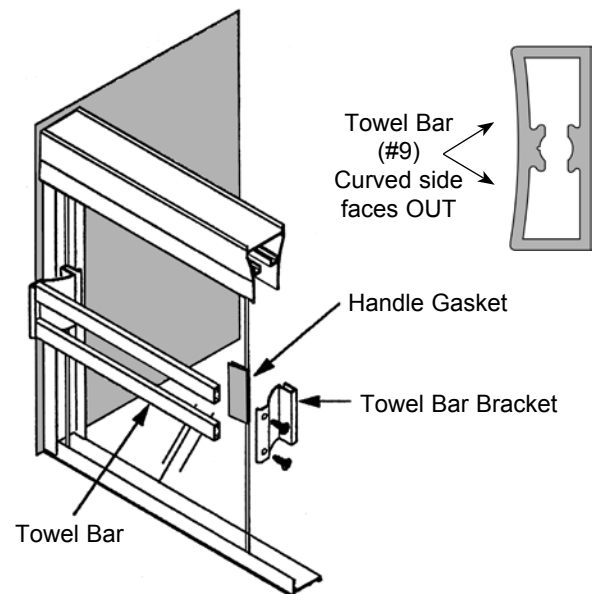

Figure 7
- D. Slide the Outside Door Panel (#5) to the Wall Jamb (#3) nearest the shower head. Wrap another Handle Gasket (#14) around the edge of the glass nearest the wall and centered on the Panel Locator (#7). Position the Towel Bar Bracket (#10) over the Handle Gasket (#14) and push it into place (See Figure 7).
- E. With the curved side of each Towel Bar (#8) towards you, attach each one to the two Towel Bar Brackets (#9 and #10) using the four #8 x 1/2" FH SMS Screws (#16) (See Figure 7).